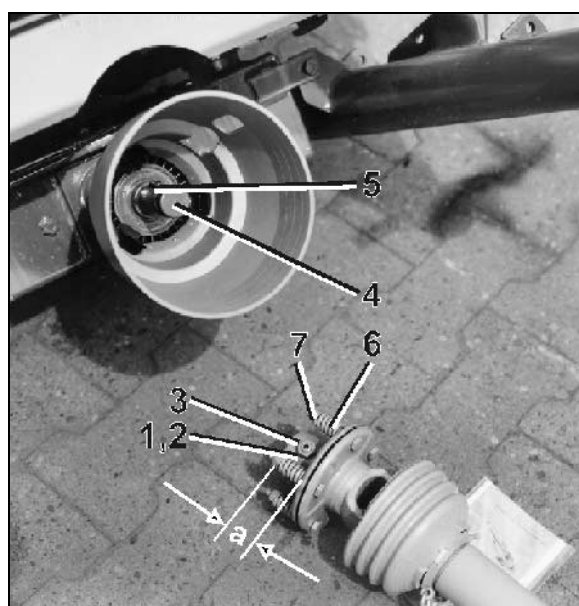

Fig. 77
2. Relief springs (Fig. 77/6) by slackening the nuts (Fig. 77/7).